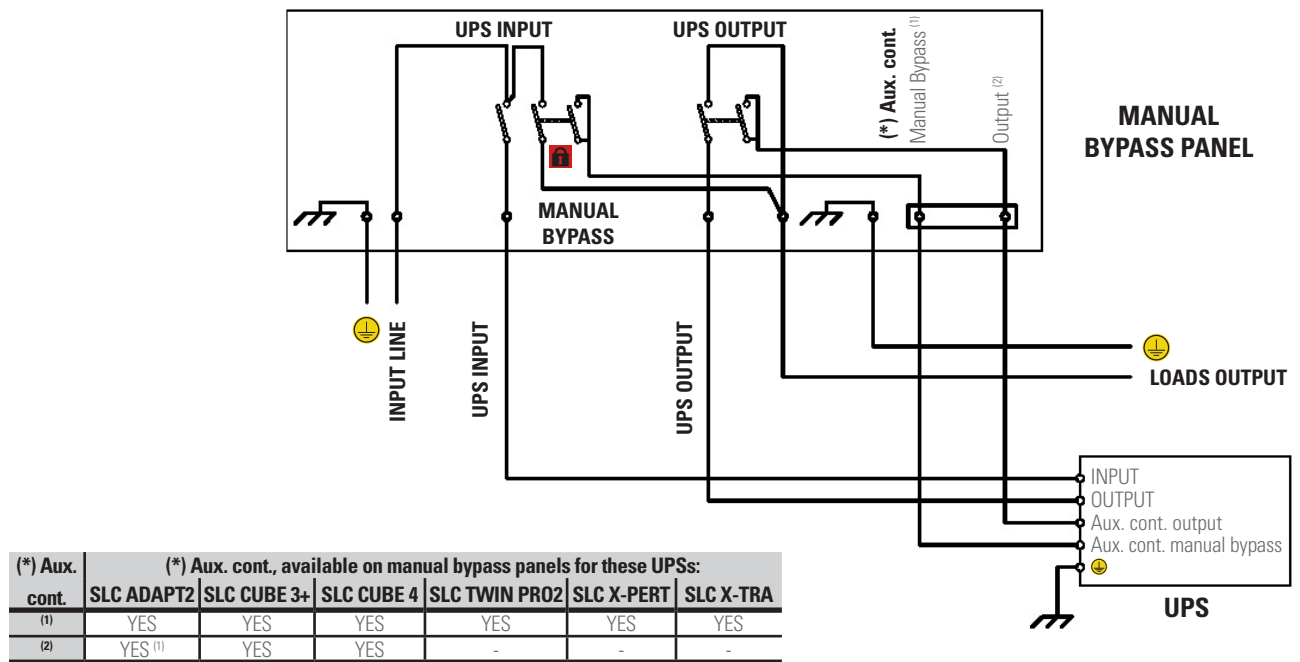

Fig. 3. Generic manual bypass panel for a standard UPS.
- ☐ Generic manual bypass panel for a standard UPS (Fig. 3).